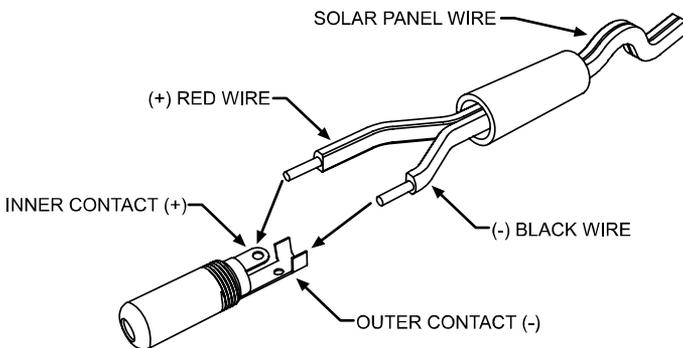

Figure 4-1 Typical DC Coaxial Connector Connection
2. Connect the solar panel's black negative (-) wire to the plug's outer contact. See Figure 4-1.